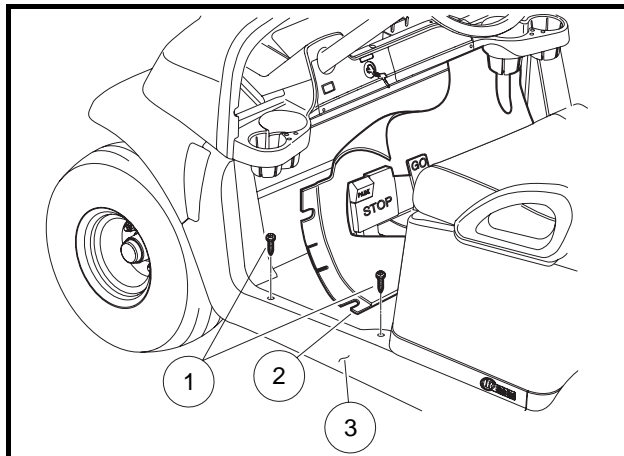

Figure 5-1 Pedal Group Access
2. Remove screws (1). Pull floor mat retainer (3) away from the vehicle (**Figure 5-1, Page 5-1**).
3. Pull floor mat (2) over the pedal group to gain access to the pedal group hardware.
7. Install the floor mat (2) over the pedal group. Make sure tabs on floor mat sides are beneath the sill (3). Tighten screws (1) to 53 in-lb (6 N·m) (**Figure 5-1, Page 5-1**).